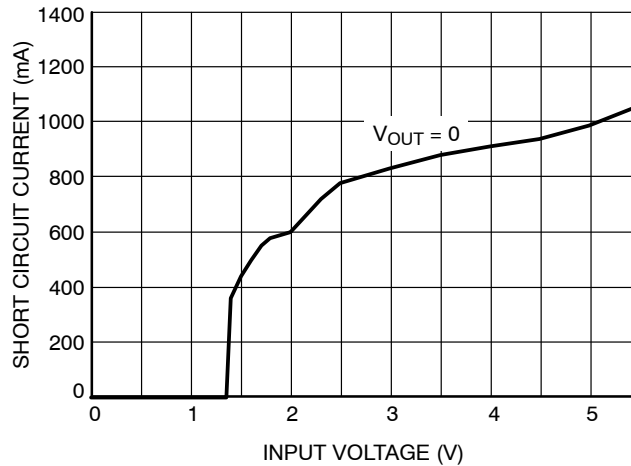

Figure 13. Output Short-circuit Current vs. Input Voltage
- Output current capability depends upon the value of both V_{IN} and V_{OUT} . For $V_{OUT} \leq 0.8\text{ V}$, output current capability is 90% of ISC (see Figure 13). For $V_{OUT} > 0.8\text{ V}$, current capability is 1 A for $V_{IN} \geq 1.8\text{ V}$.